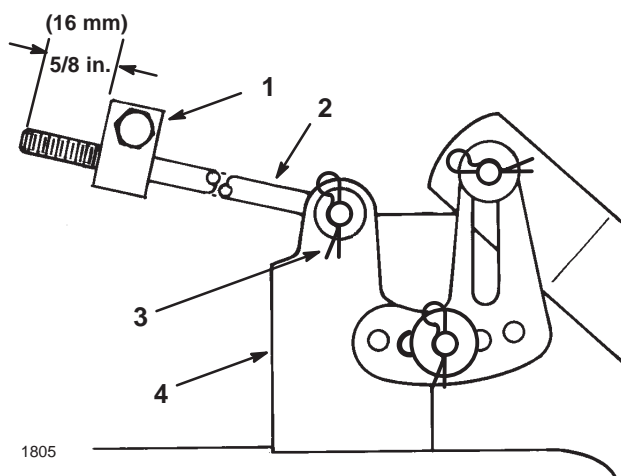

Figure 13
- Measure the length of the rod extending out of the front of the adjusting block on the sides of the chassis (Fig. 13). If the rod length is not $\frac{5}{8}$ in. (16 mm), remove the hairpin cotter and washer from the end of the rod (Fig. 13) and turn the rod until the $\frac{5}{8}$ in. (16 mm) dimension is obtained. Then install the end of the rod into the hole in the mower mount and secure it in place with the washer and hairpin cotter. Repeat this procedure on the opposite side of the mower.